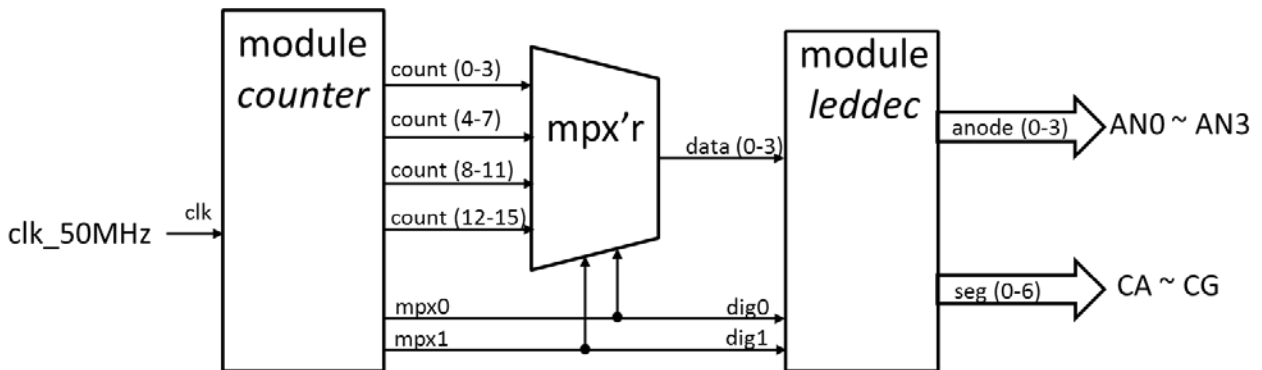

Figure 3 Modified *hexcount* module
- d) Now open the source code for the top level module *hexcount*. Modify the *hexcount* module to implement the structure shown in Figure 3. The *mpx* output from the new *counter* module now drives the *dig* input of the *leddec* module. The 2-bit *mpx* signal is also used to select which 4-bits of the 16-bit *count* output should be sent to the *data* input of the *leddec* module. You will need to add some code to the *hexcount* module to perform this data multiplexing operation.